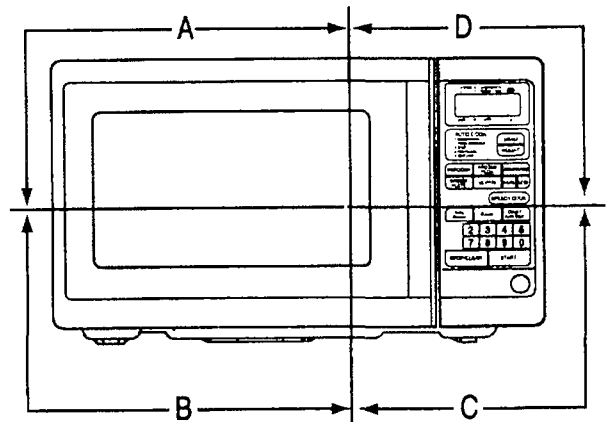

Figure 4
a. To reduce gap located on part "A". **(Figure 4)**